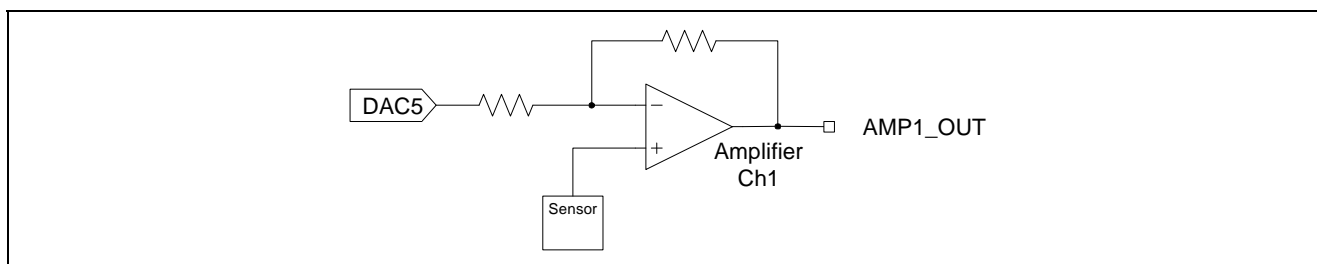
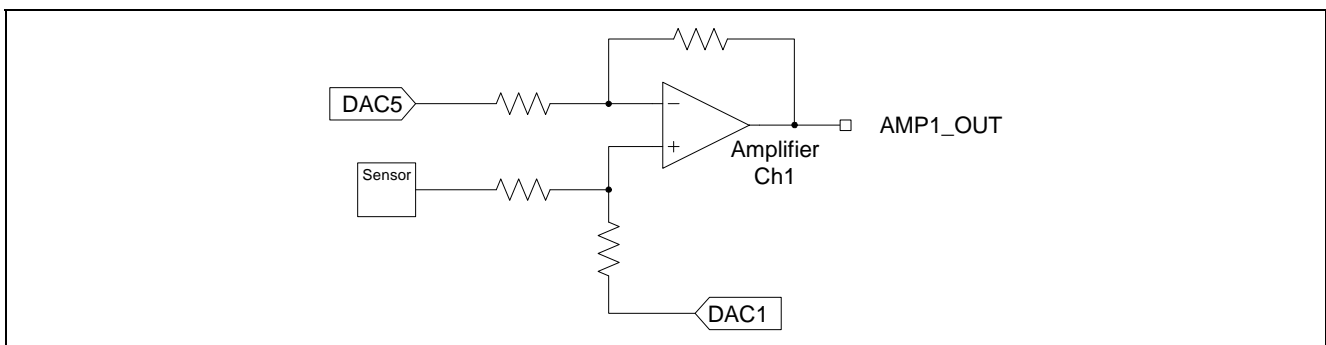
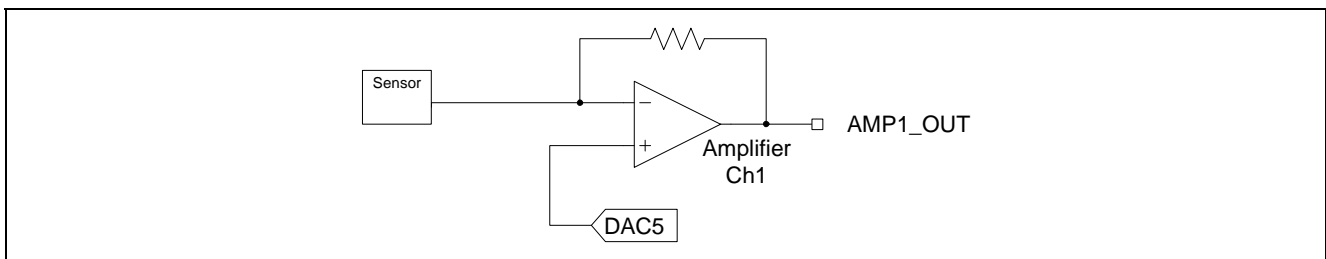

Figure 4-1 Non-Inverting Amplifier Circuit Diagram
Figure 4-2 Circuit Diagram of Differential Amplifier (Using Two D/A Converter Channels)
Figure 4-5 Transimpedance Amplifier Circuit Diagram
Figure 4-1 shows a circuit diagram of a non-inverting amplifier that is configured by using configurable amplifier Ch1 and D/A converter Ch5 in Smart Analog IC 300.
Figure 4-2 shows a circuit diagram of a differential amplifier configuration implemented by using configurable amplifier Ch1 and D/A converter channels Ch1 and Ch5 in Smart Analog IC 300 being used as a non-inverting amplifier from the viewpoint of the sensor.
By using two configurable amplifier channels, a differential amplifier that combines the advantages of the non-inverting amplifier shown in Figure 4-1 and the differential amplifier shown in Figure 4-2 can be configured. A sensor is connected to one input of the differential amplifier and a D/A converter is connected to the other input, and the amplifier is used as a non-inverting amplifier.
Figure 4-5 shows a circuit diagram of a transimpedance amplifier that is configured by using configurable amplifier Ch1 and D/A converter Ch5 in Smart Analog IC 300.
This amplifier is configured by externally connecting a resistor to the non-inverting amplifier shown in Figure 4-1. By using the external resistor as the sensor's load resistor, a current sensor can be used as a voltage sensor. This kind of amplifier is more effective than the transimpedance amplifier shown in Figure 4-5 for sensors that have a large output current, because the external resistance value can be selected.
- Smaller gain error than the transimpedance amplifier shown in Figure 4-5.